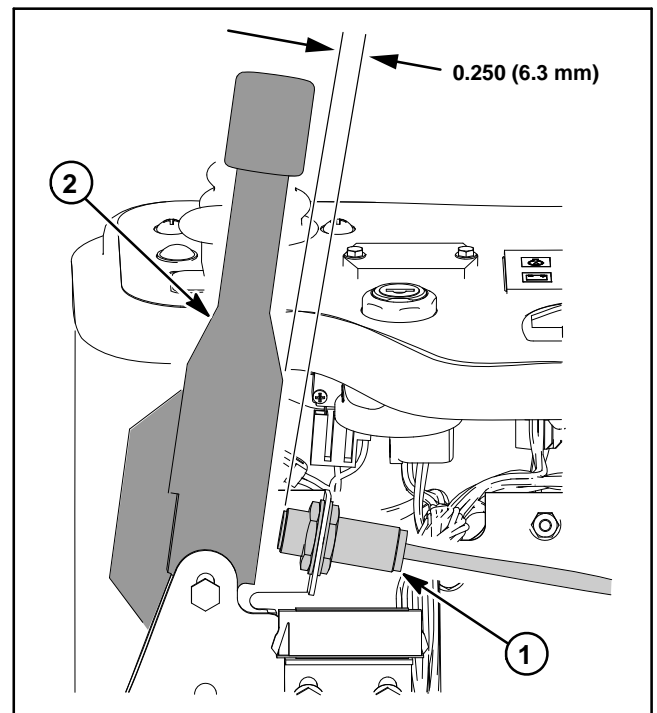

Figure 16
2. When the parking brake is applied, the clearance between the brake lever and the end of the parking brake switch is **0.250" (6.3 mm)** (Fig. 16).